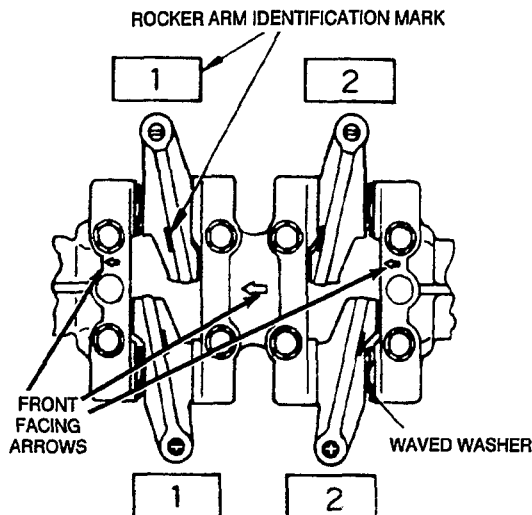

FIGURE 9-11. INSTALLING ROCKER ARMS
2. Install the center camshaft bearing cap with the embossed arrow on its top toward the front (Figure 9-11).
4. Mount the front end cap and the rear end cap with the embossed arrows facing front. Be sure the convex surfaces of the waved washers face toward the rocker arms (Figure 9-11).
7. Assemble the rocker arm shafts to the camshaft center housing cap. Lubricate the shafts and press fit them with special tools "Rocker Arm Shaft Puller" and spacer tool (Figure 9-11). **Note Cautions below.**